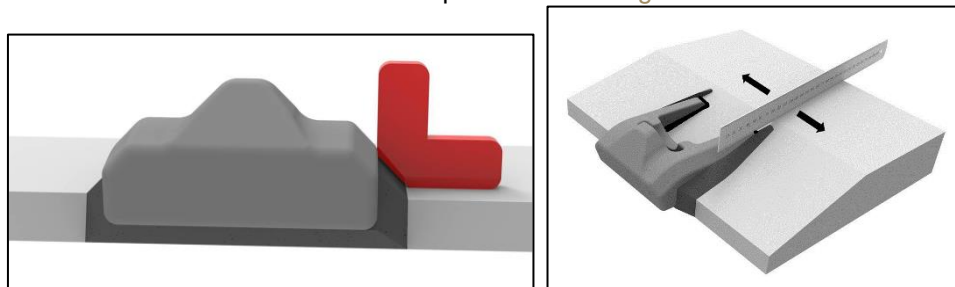

Figure 30 Excerpts from PGP0051
- 2.15.6. Inspect all boss fillet welds by following Gauging Procedure PGP0051. Rectify all over or under welds and smooth transitions between weld passes. Refer Figure 30.